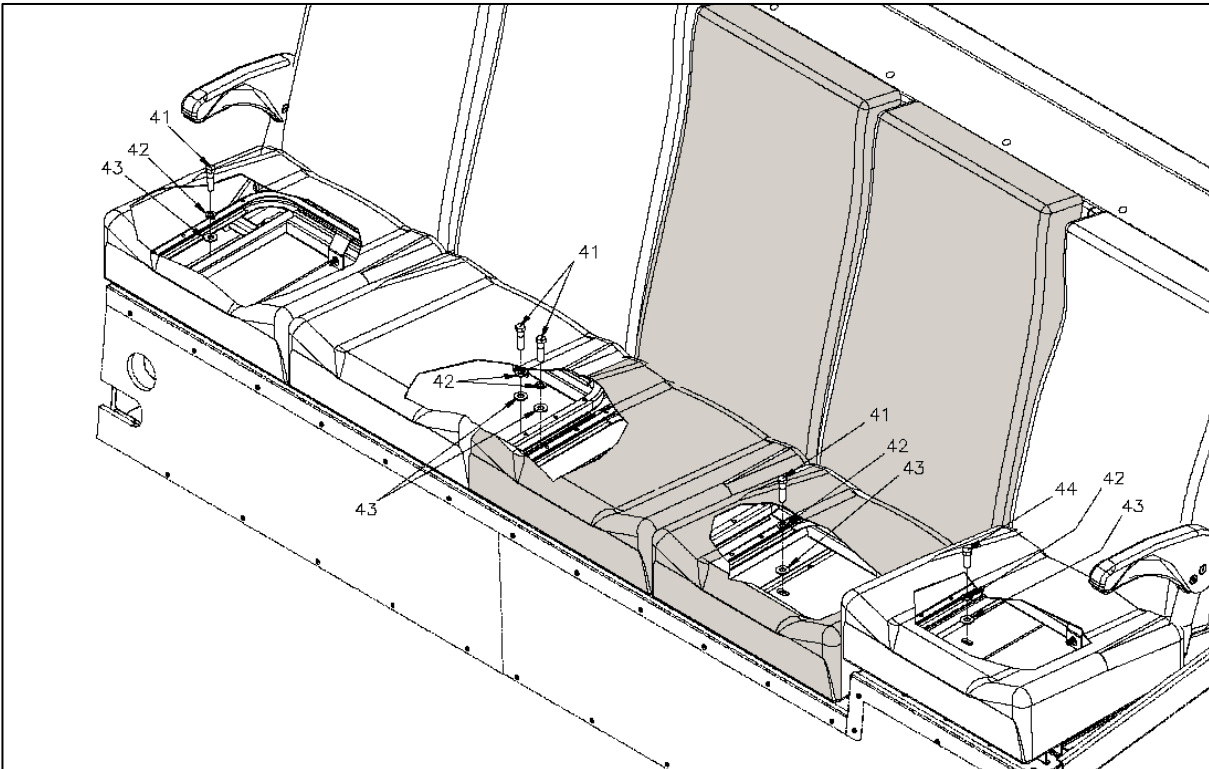

Figure 1: Seats to be removed
1. From inside the vehicle locate the rear cross seat, and remove the mid seat and the seat next to it, road side. (Fig. 1)